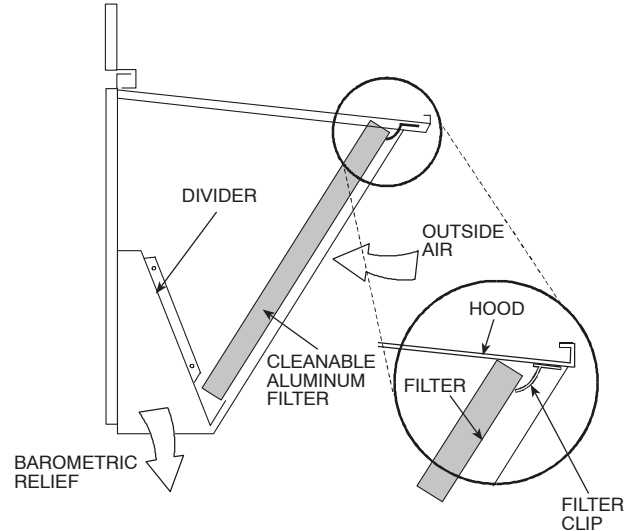

Fig. 11 - Economizer Filter Installation
- Open the filter clips which are located underneath the hood top. Insert the aluminum filter into the bottom filter rack (hood divider). Push the filter into position past the open filter clips. Close the filter clips to lock the filter into place. See Fig. 11.